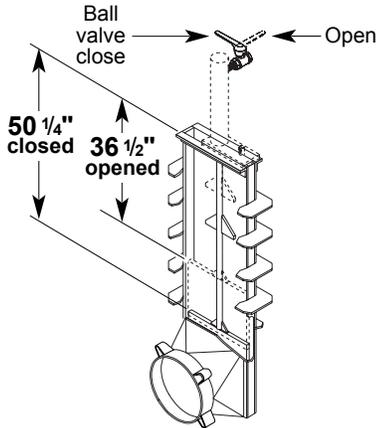

fig. 1
2. Ensure the outlet guillotine door is properly closed to prevent the manure from the evacuation line to flow back in the Magnum. After, close the ball valve of the outlet guillotine cylinder — *fig. 1*.
**IMPORTANT:** In order for the guillotine door to be properly closed, there must be a distance of about 50-1/4" between the top of the guillotine and the drain hose adaptor — *fig. 1*.